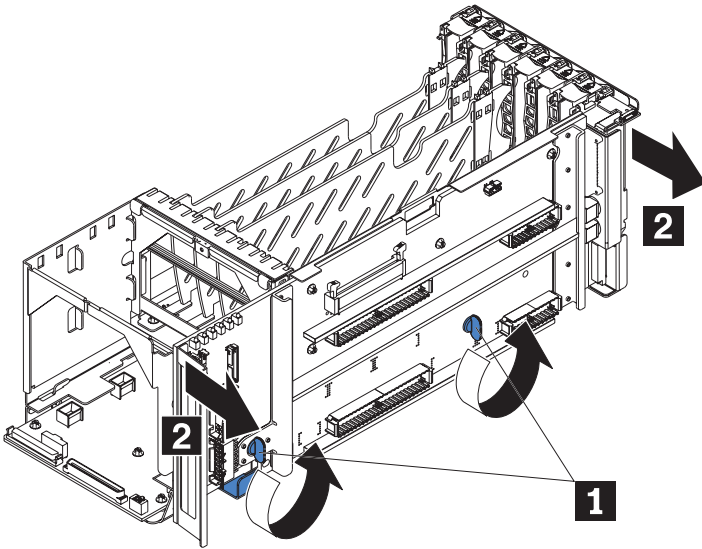

Figure 12. Removing the center plane
- a. Position the center plane over the center plane socket on the I/O board; then, press it firmly into the socket (see Figure 12 on page 24 for reference).